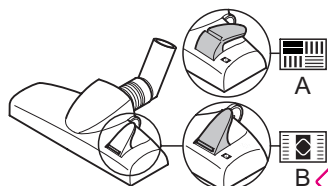

Fig. 10
5. Set the nozzle switch to "carpet" or "hard floor" according to the floor (Fig. 10) to be cleaned:
- **Hard floor (Fig. 10/A):**
- **Carpet (Fig. 10/B):**